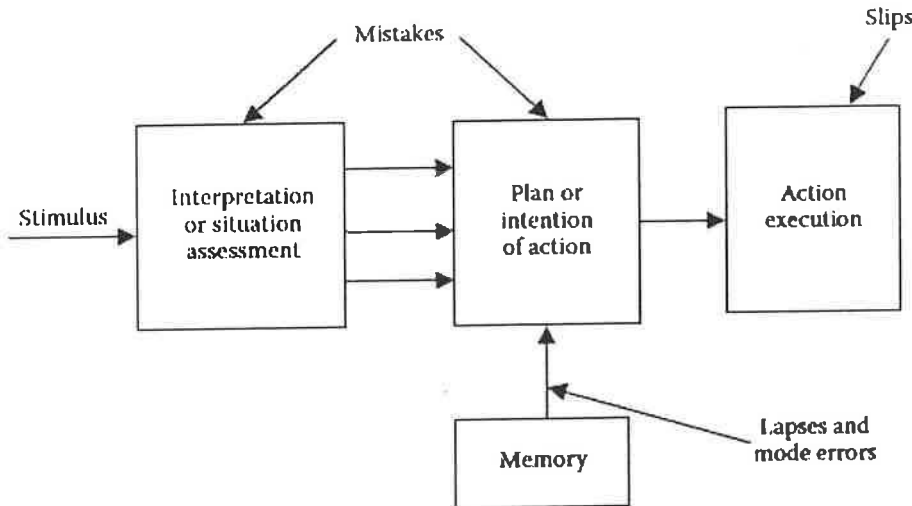

Figure 2: Reason's model of human error (1991)
[20 marks] 3. A common model of error used in ergonomics analysis is Reason's model of error as seen in Figure 2.
- a) [10 marks] Identify the error type for each error using Reason's error model seen in Figure 2 and justify why it is that type of error.